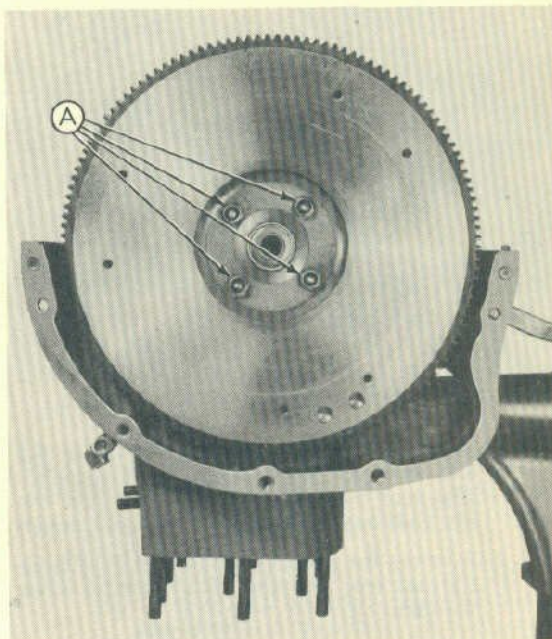

Fig. 2
Step 2—Remove the flywheel by removing the four cap screws (A-Figure 2) and tapping the face of the flywheel near the outer edge with a soft face mallet.